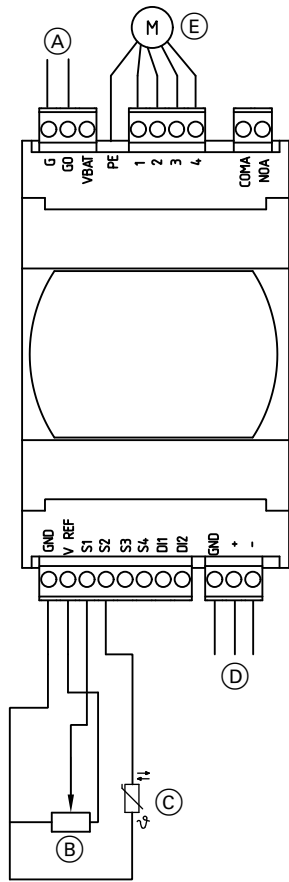

Fig. 85
| (K) Soft starter status input | (V) Type AWO 302.B60: Modbus cable to the EEV PCB [6]; terminal (D) in Fig. 85 |